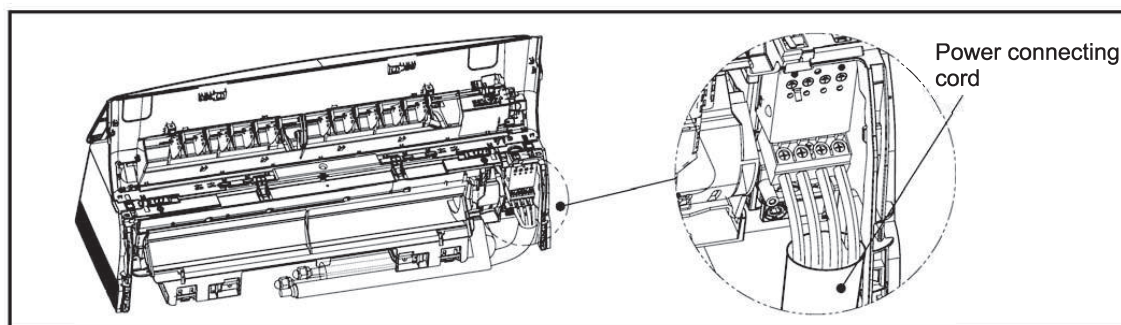

Fig. 18
8) Connect the power connecting cord (Fig.18).